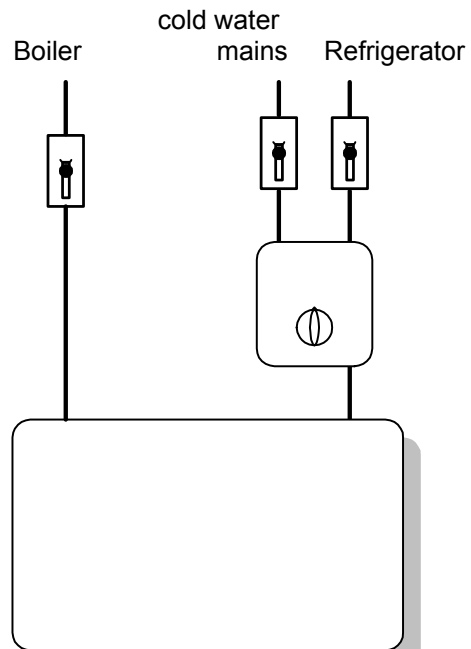

Figure 5
- With reference to the fig 5, the use of Automatic kit is foreseen, code 3801231 (230V).
- Connect ball gate valves to the doser-mixer by means of the "O" ring gasket type unions (2).
- Insert the delivery hose (12) into its housing.
- Connect the by-pass (13) to a drain by means of a copper pipe with ½" internal diameter.